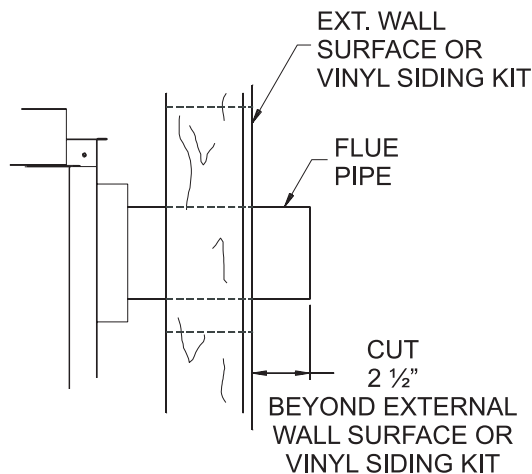

Figure 53
8. Attach the 4" (102 mm) diameter flue outlet tube onto the rigid venting system or directly to fireplace. Ensure the 4" (102 mm) diameter flue outlet tube is placed as far as possible onto the rigid venting system. Mark the 4" (102 mm) diameter flue outlet tube 2 1/2" (64 mm) beyond the vinyl siding kit or wall. See Figure 53. Remove the 4" (102 mm) diameter flue outlet tube from rigid venting system. When installing directly to fireplace, tape gasket needs to be used.